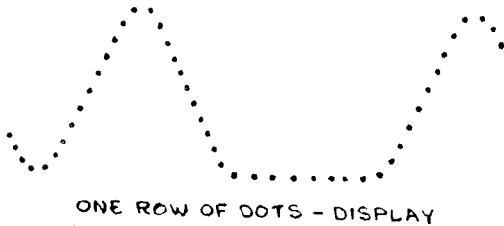

FIG. 5
- c) Adjust R304 for a single row of dots. Use chart below for other adjustment of SAMPLES/CM control (see Figs. 5 and 5a).